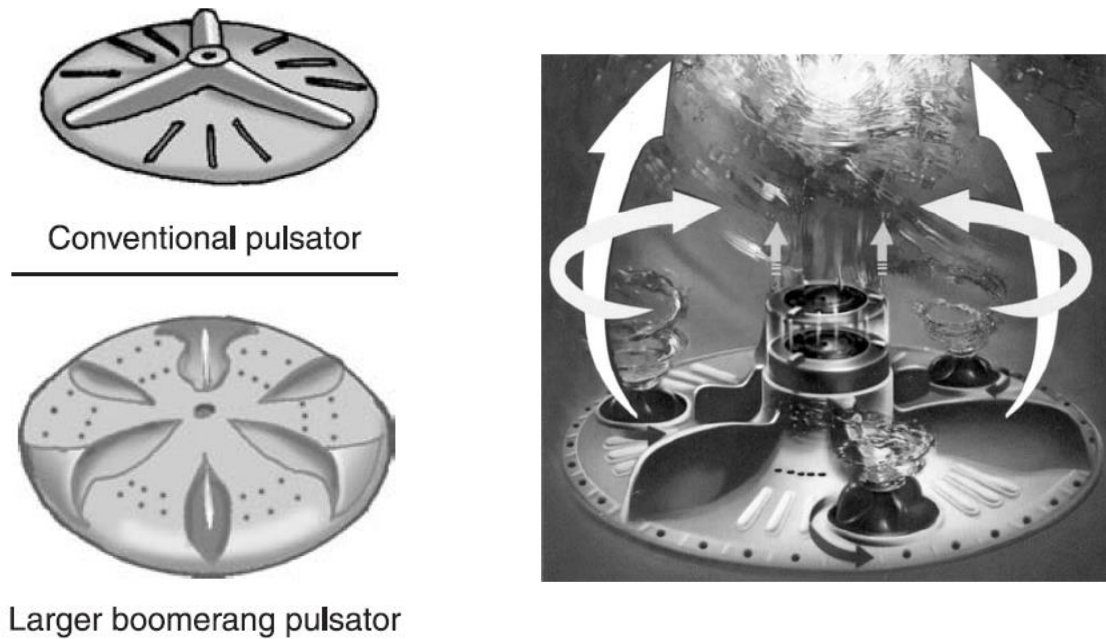

Fig. 2.10 Pulsator disk
4. Washing Technique: In some machines a pulsator disk (Fig. 2.10) at the bottom, circulates water upwards in large circles while rotating, providing better and gentler cleaning of clothes.